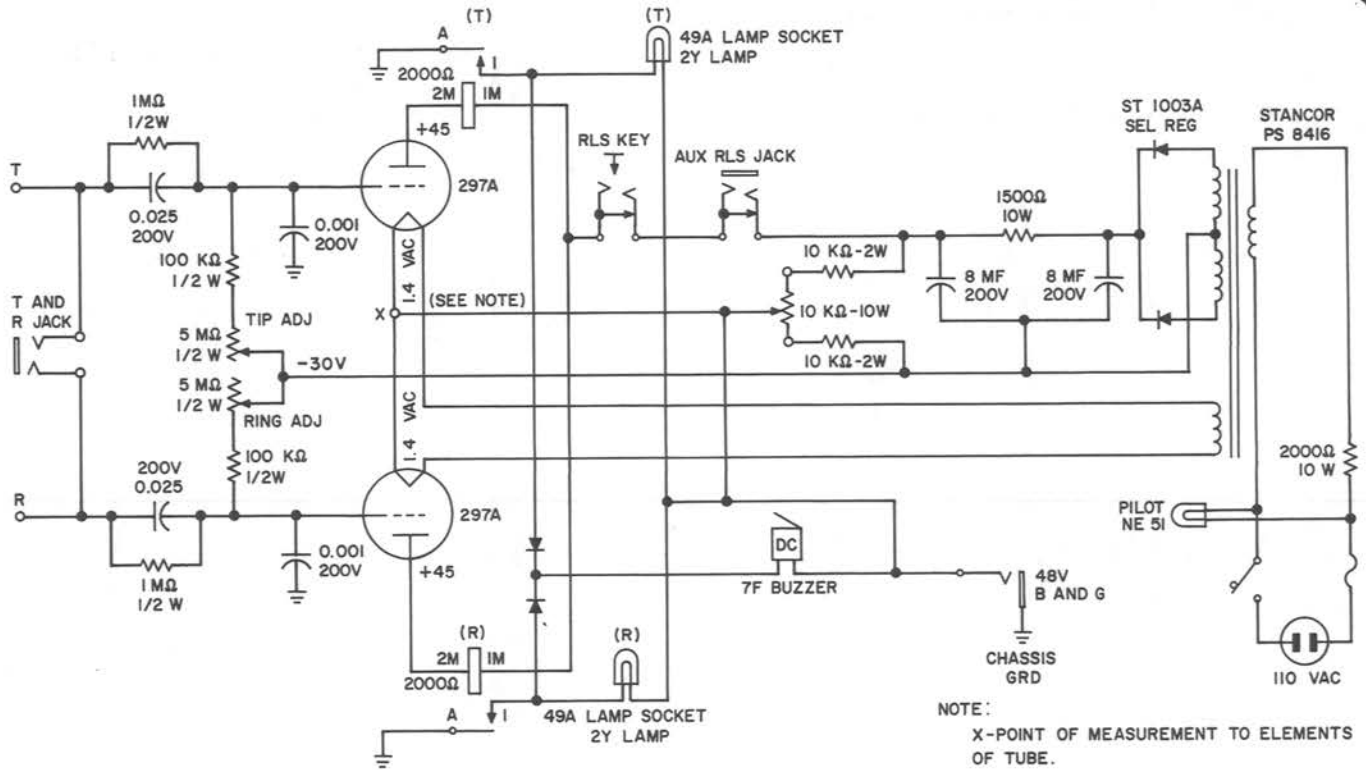

Fig. 1—Schematic of 38-Y-3892 False Closure Test Set
1.02 This section is reissued to add Fig 1.
4.01 Local procedures may differ regarding the disposition of defective 38-Y-3892 test sets. Minor repairs may be permitted. This portion of the section may prove helpful to that end. See Table A and Fig. 1. If the information included herein does not clear the trouble, the matter should be referred to the supervisor.